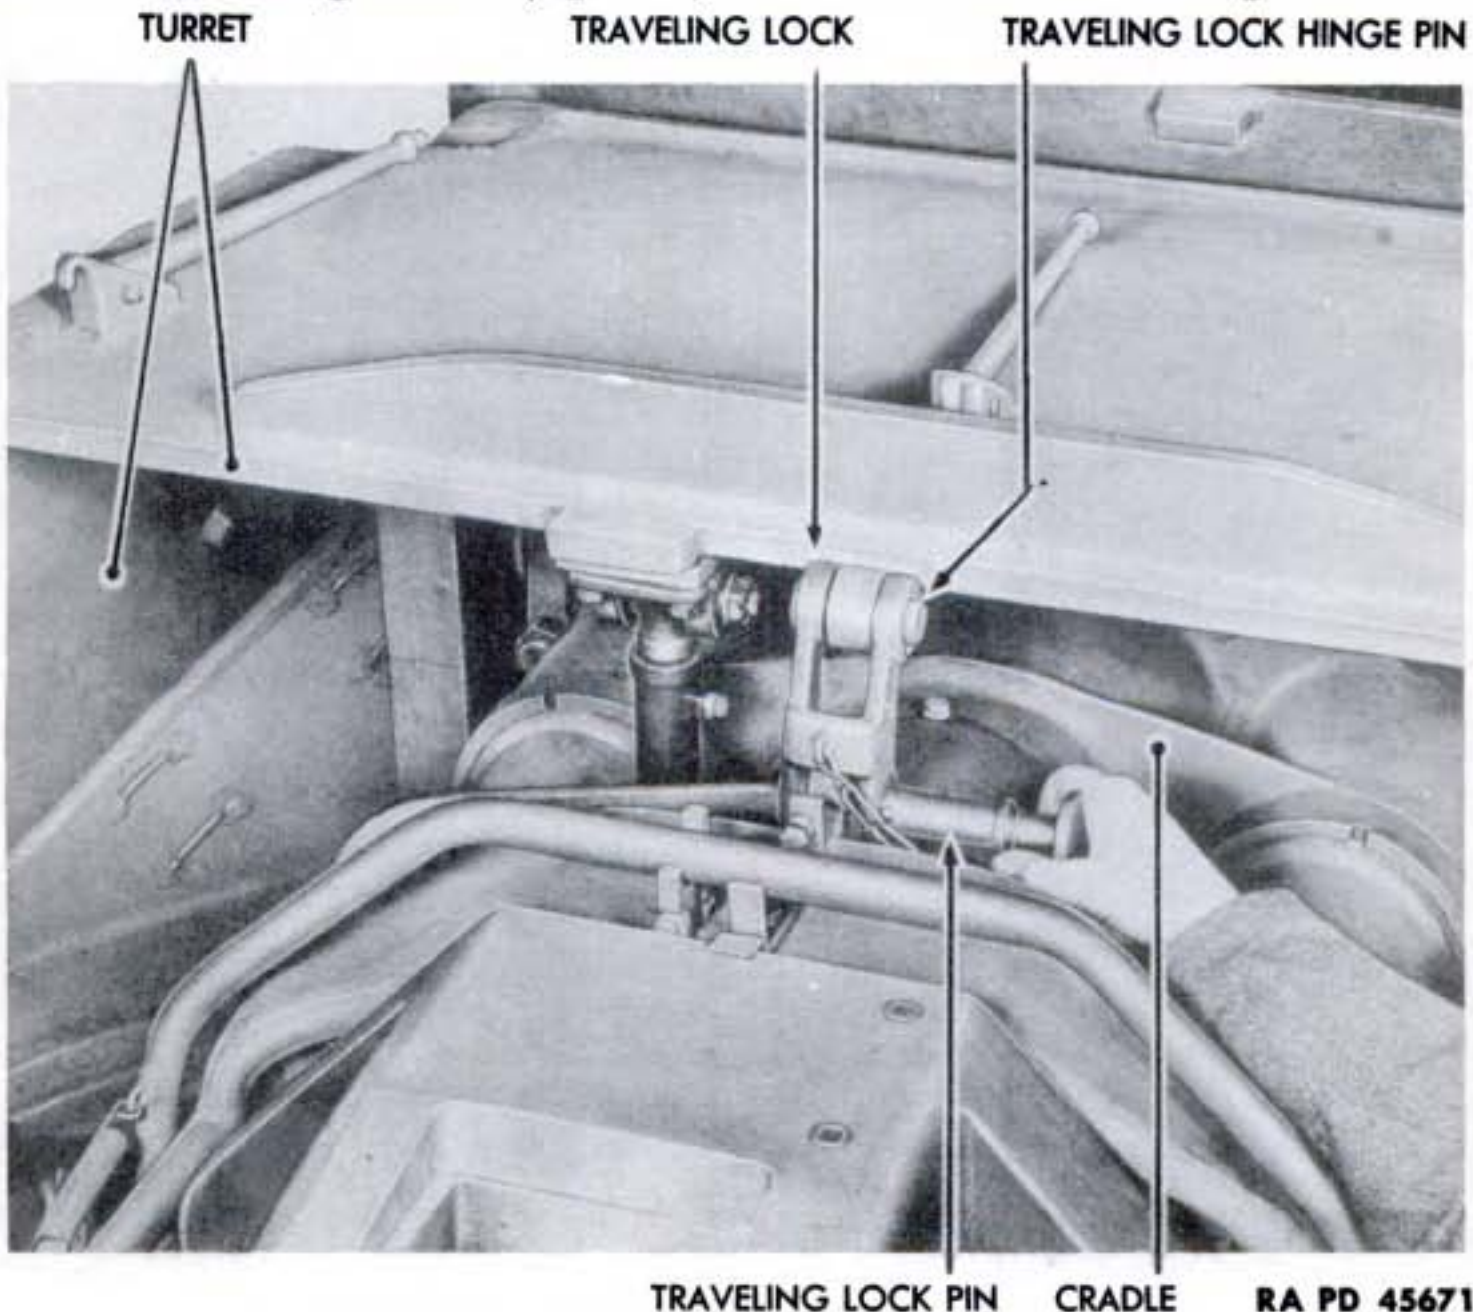

Figure 182—Removing Traveling Lock Pin
b. Pull traveling lock pin from traveling lock and then swing lock up under turret and install traveling lock pin through lock and turret lock bracket (fig. 182).
c. Remove traveling lock pin from turret bracket and turn traveling lock down. Turn elevating wheel to align hole in traveling lock with hole in cradle bracket and insert traveling lock pin through traveling lock and cradle bracket (fig. 182).